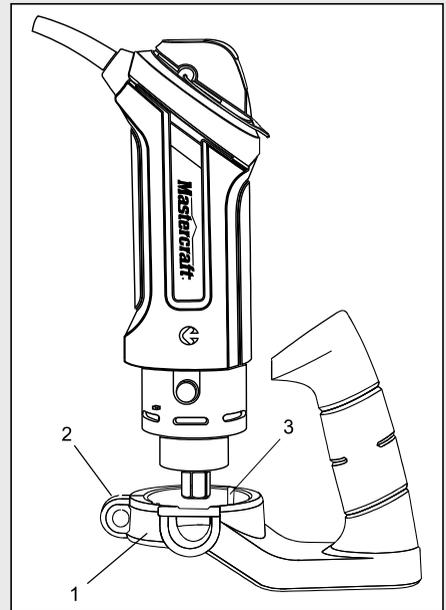

Fig. 1
1. Open the mounting collar (1) by pulling the quick release lever (2) outward (Fig. 1).
2. Slide the mounting collar onto the bottom of motor housing (2). Make sure the key (3) on the motor housing is aligned with the matching keyway in the mounting collar.
2. Install the assist handle and the freehand cutting guide as shown in Fig. 1 & 2.